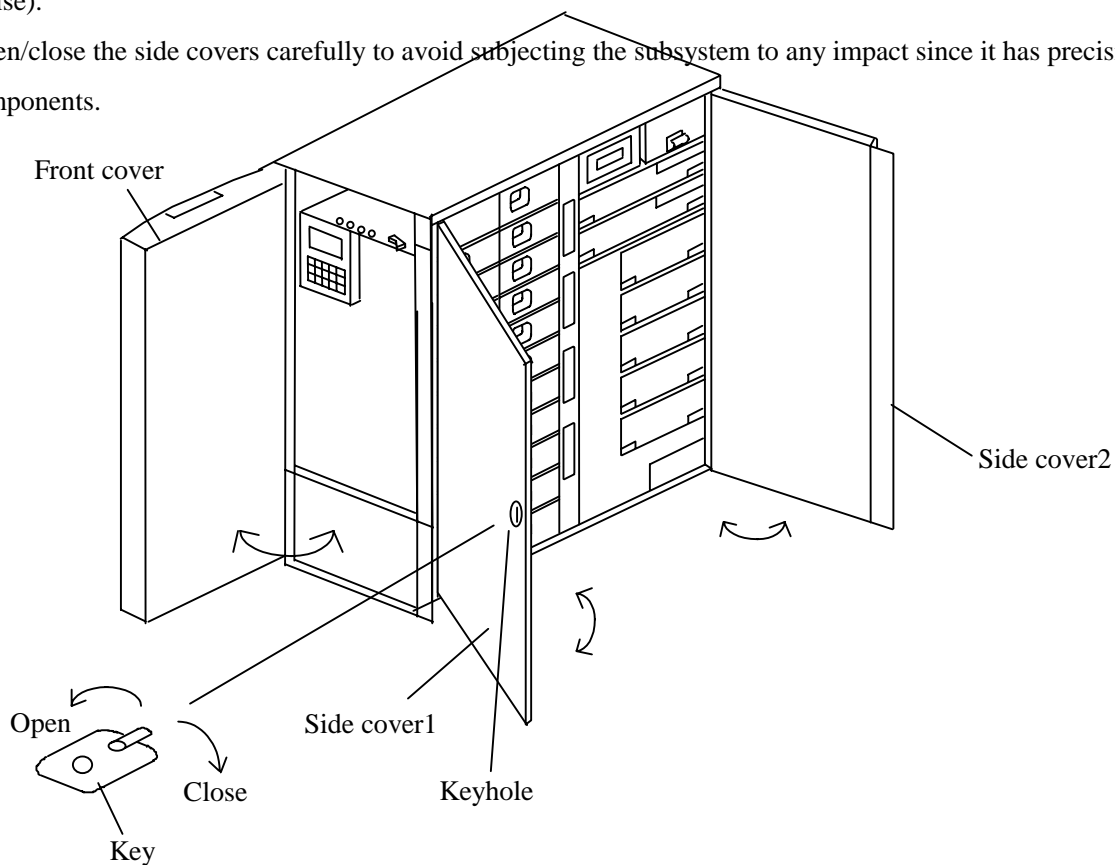

Figure4.2 Opening/Closing Front and Side Covers
### (1) Opening/closing the front cover (See Figure 4.2.)
### (2) Opening/closing the side covers (See Figure 4.2.)